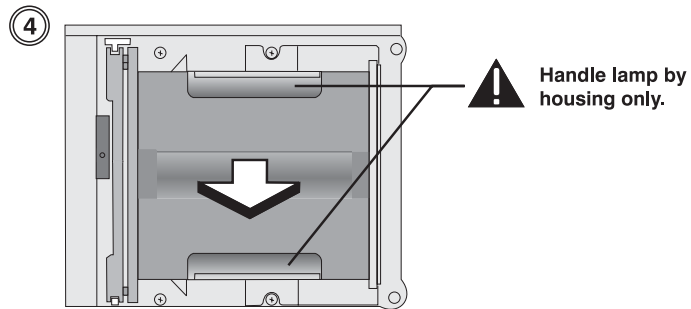

Figure 4.4.
4. Grasp the lamp by its housing only and pull it straight out (lamp slides along guides) until it's free. (Figure 4.4.) Discard the lamp using safe disposal/recycling practices or contact CHRISTIE for a possible re-lamping program.